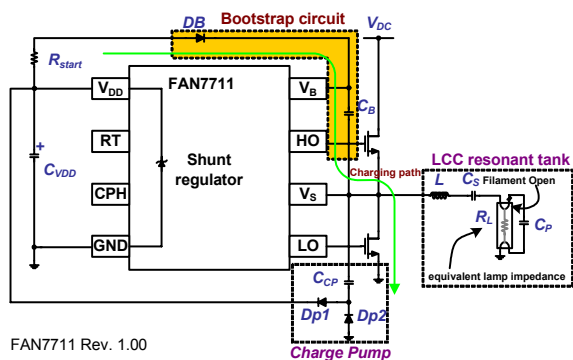

Figure 26. Implementation of Floating Power Supply Using the Bootstrap Method
When V_S is changing from high to low state, C_{CP} is discharged through $Dp2$, shown as path (2) in Figure 26. These charging/discharging operations are continued until FAN7711 is halted by shutdown operation. The charging current, I , must be large enough to supply the operating current of FAN7711.
The supply for the high-side gate driver is provided by the boot-strap technique, as illustrated in Figure 26. When the low-side MOSFET connected between V_S and GND pins is turned on, the charging current for V_B flows through D_B . Every low V_S gives the chance to charge the C_B . Therefore C_B voltage builds up only when FAN7711 operates normally.